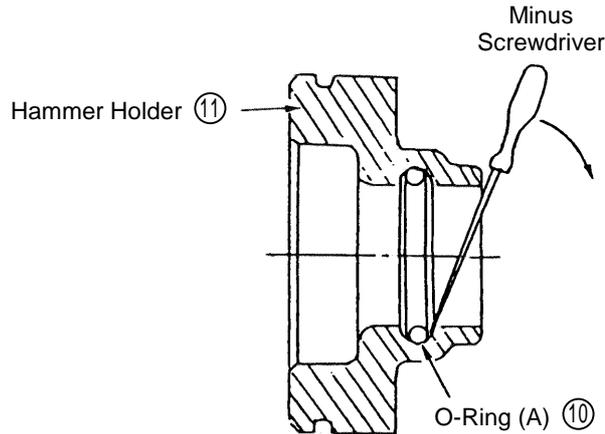

Fig. 10
(5) Removal of O-Ring (A) (10):
As O-Ring (A) (10) is installed in the inner portion of the Hammer Holder (11), it may be difficult to remove. As illustrated in Fig. 10, pry O-Ring (A) upward gently with a small minus screwdriver, being very careufl not to damage the surface of the O-Ring.